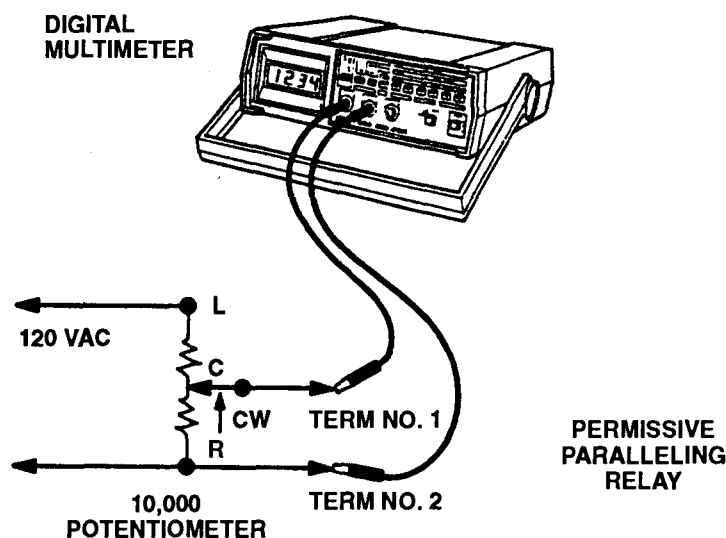

FIGURE 2-15. Permissive Paralleling Relay Test Set-up
- Set up a test circuit as shown in FIGURE 2-15. Connect 120 VAC source (can be obtained from convenience receptacle) to terminals L and R of potentiometer. Connect a wire from terminal C of potentiometer to terminal 1 of permissive paralleling relay. Connect a second wire from terminal R of potentiometer to terminal 2 of permissive paralleling relay. Set multimeter for AC volts and connect to terminals 1 and 2 of permissive paralleling relay.